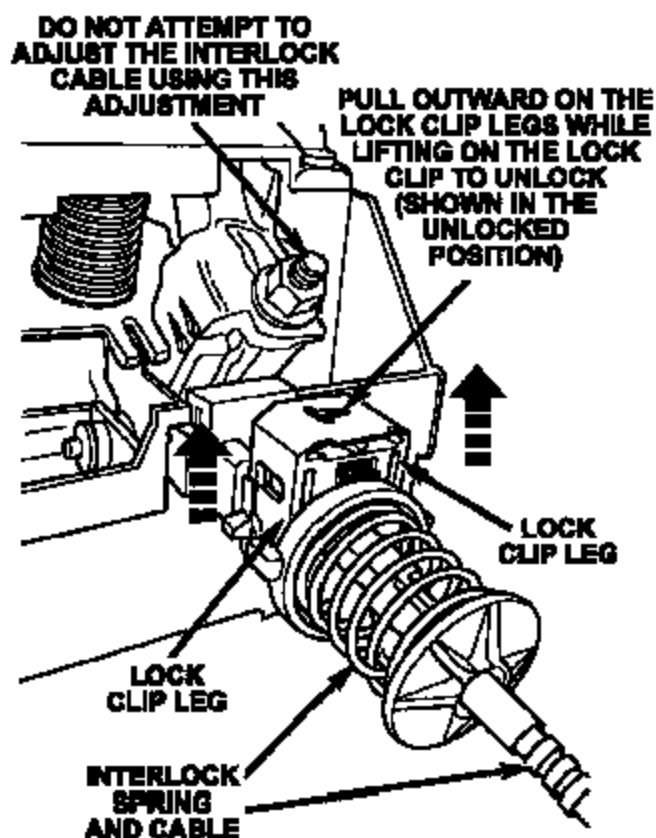

Figure 9 – Self Adjusting Cable
1. Spread the lock clip legs while pulling the lock clip upward to unlock the self-adjuster lock (Figure 9).